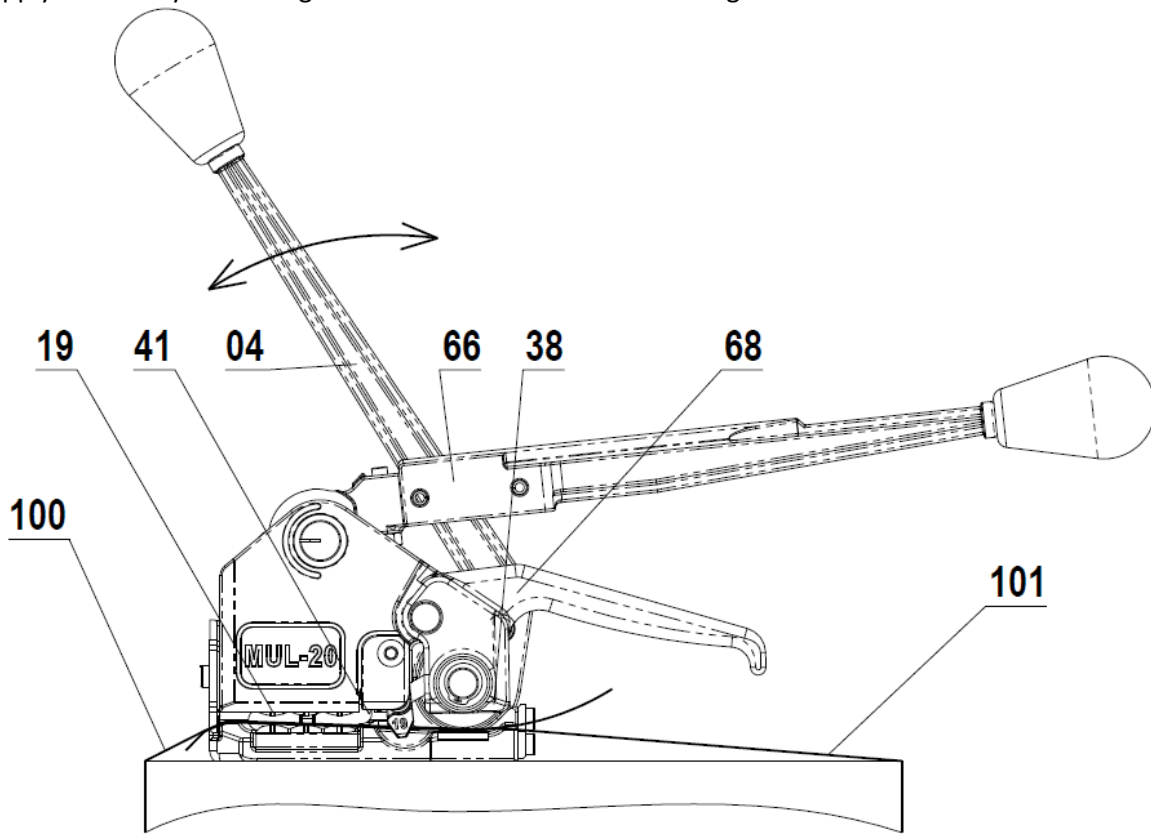

Fig. 3
2. Apply tension by ratcheting **Tension Handle 04** as shown on Fig. 3.